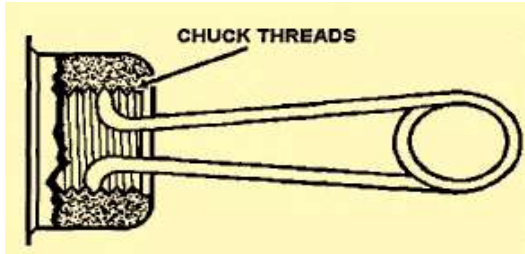

Figure 7-34. Spring thread cleaner.
**Mounting Workpieces in Chucks:** Turn the spindle so that the key is facing up and lock the spindle in position. Place the chuck in position on the spindle. Engage the draw nut thread and tighten by applying four or five hammer blows on the spanner wrench engaged with the draw nut. Rotate the spindle 180°, engage the spanner wrench, and give four or five solid hammer blows to the spanner wrench handle. The workpiece is now ready for mounting. (Figure 7-34).